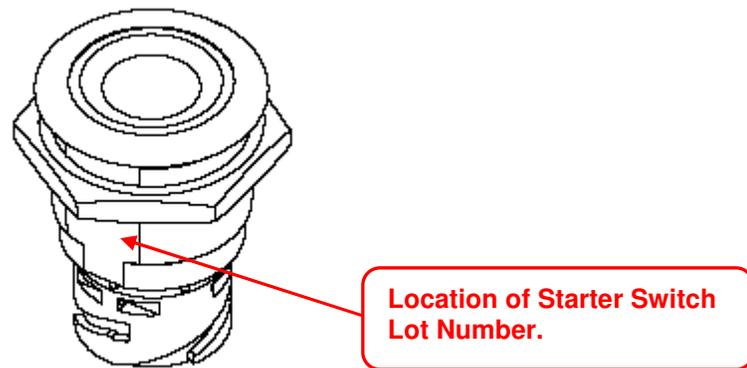

FIGURE1. Location of Lot Number.
4. Examine the starter switch for Lot#. The Lot # is a 4 digit number stamped on the flat surface on the back of the switch. See Figure 1.
8. Examine the starter switch for Lot#. The Lot # is a 4 digit number stamped on the flat surface on the back of the switch. See Figure 1.